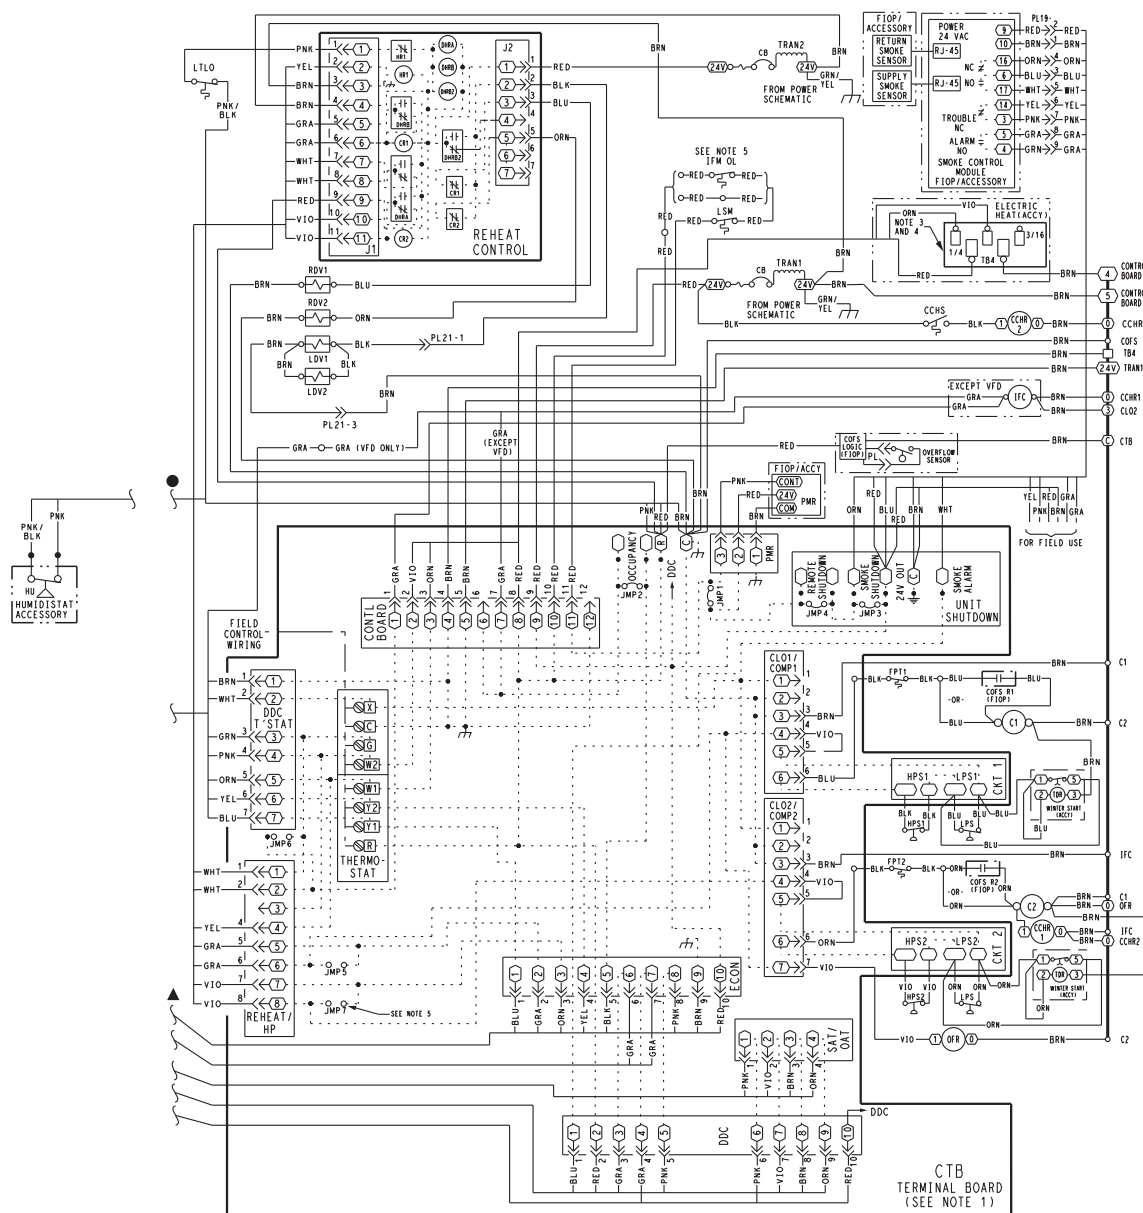

Fig. 41 — Typical Hot Gas Re-Heat Dehumidification System Humidistat Wiring
5. Use wire nuts to connect humidistat cable to two PINK leads in the low-voltage wiring as shown in Fig. 41).